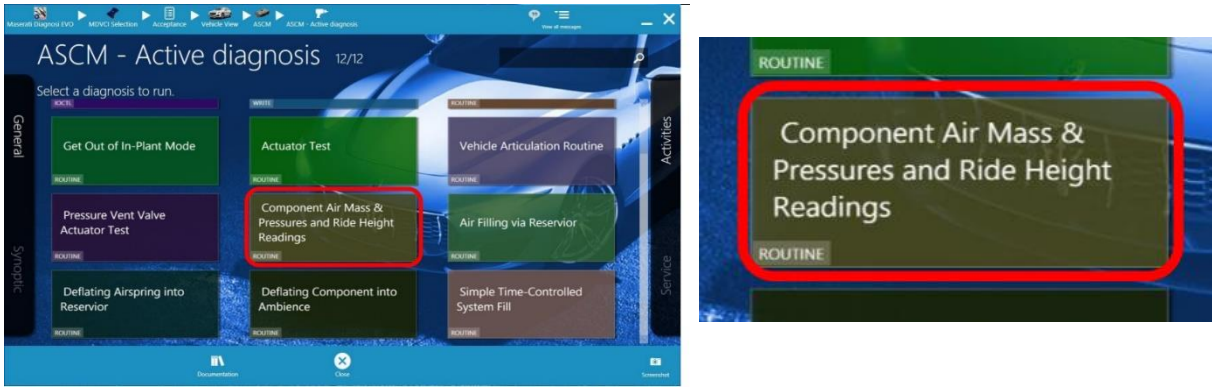
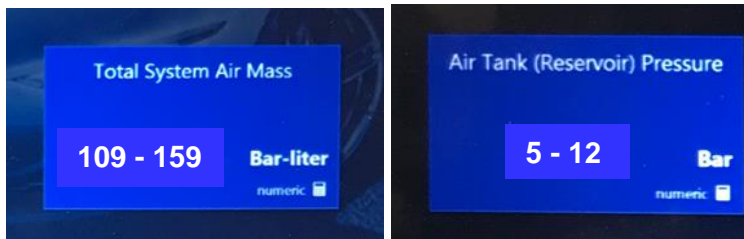

Figure 1: air suspension system pressure reading with the Active Diagnosis of the ASCM ECU.
Figure 2: results of the system pressure reading Active Diagnosis.
3. With the Diagnostic Tool, via Active Diagnosis > Ride Height, Pressure and Air Mass measures of the ASCM module (see **Figure 1**), verify the Total System Air Mass and the system pressure (Air Tank (Reservoir) Pressure) (see **Figure 2**).